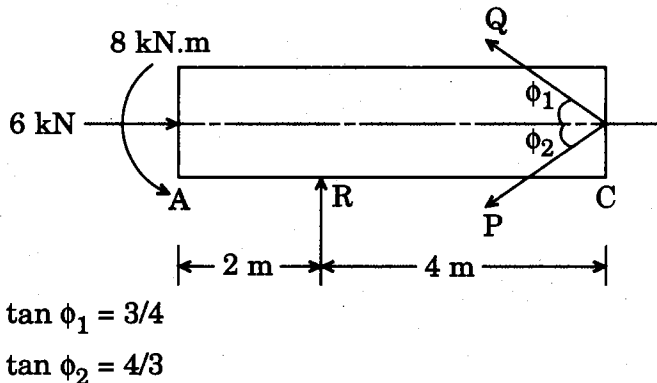

Figure 1
- (b) An axial force of 6 kN and moment of 8 kN.m along with the unknown forces P, Q and R is acting on a rigid body AC of 6 m length. Determine the forces P, Q and R to keep the body 'AC' in equilibrium (Figure 1). 10